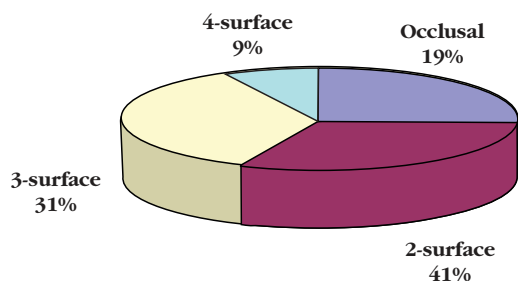

Figure 2
- A variety of anterior and posterior restorations were placed: 26 were single-surface (occlusal); 97 were two- or three-surface; and 11 were 4-surface restorations (Figure 2).